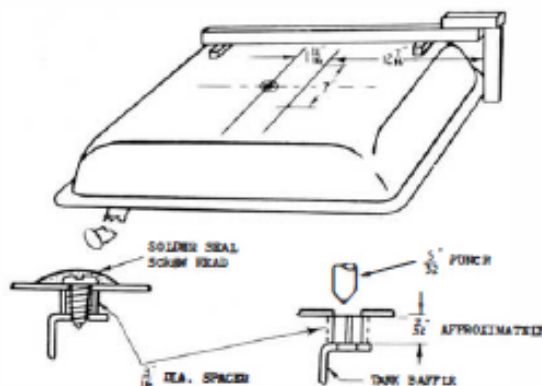

Fig. 1
1. Drill two $\frac{3}{8}$ in. dia. holes in the underside of tank and lower flange of tank baffle at positions and by the method indicated in Fig. 1.
3. Measure the depth between tank and baffle flange at each hole as indicated in Fig. 1 (this should be approximately $\frac{3}{8}$ in.) and cut a tubular spacer of a corresponding length from $\frac{1}{8}$ in. dia. copper tubing. Cut one side of the spacer with a hacksaw lengthwise to permit expansion during the following operation.
5. Attach the tank, tank baffle and spacer together with two $\frac{1}{4}$ in. x 6 Binding Head self-tapping screws and solder seal around head of screw, as shown in section, Fig. 1.